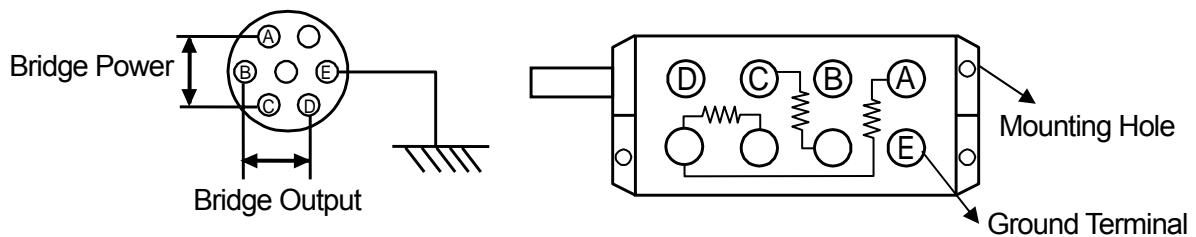

Fig. 4-1 Overview of Bridge Box
(1) Installation
- b. The bridge box may be secured with screws using the screw holes shown in Fig. 4-1, as needed.
(2) Connections to bridge box (5370/5373/5379/5380)
a. As shown in Fig. 4-1, pins A and C are provided for the bridge power supply, and pins B and D are provided for the input to the amplifier unit. Pin E is the common terminal.